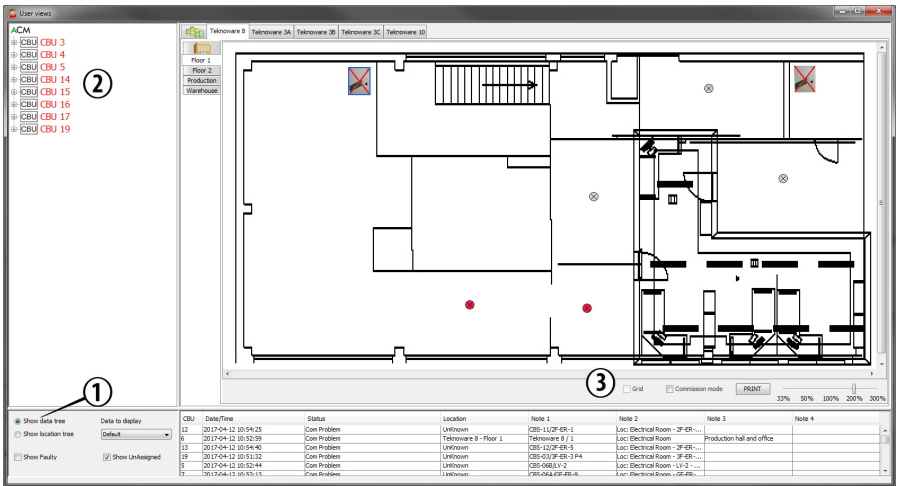

Figure 10. USER VIEWWS window
1. Make sure that the Show data tree is selected from the display options (No. 1 in the Figure 10). Start by selecting the correct Building under which the correct Area is. Then, select the correct Area. The Area Plan image is displayed.
2. Select the luminaire or CBU you wish to add to the layout map from the data tree (No. 2 in the Figure 10), right-click the luminaire/CBU, and select Add to Map. Then, left click the layout map on the spot you wish to add this CBU or luminaire to. The CBU/luminaire icon is now displayed on the map. If you wish to move the CBU/luminaire, activate the Commission mode on the map options (No. 3 in Figure 10), click the icon you wish to move, and click a new location). Repeat the procedure until all the CBU's and Luminaires are in their right places.